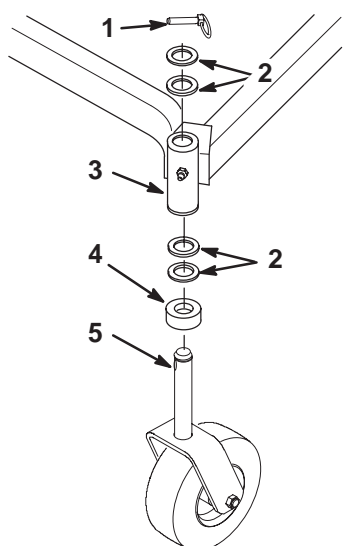

Figure 27
2. Remove the locking pin and thrust washer(s) from the top of the castor wheel fork (Fig. 27).
6. Inspect the castor wheel fork for wear and replace if necessary (Fig. 27).
7. Slide the castor wheel fork through the bushings in the mounting tube. Replace the thrust washer(s) onto the fork and secure with the retaining ring (Fig. 27).